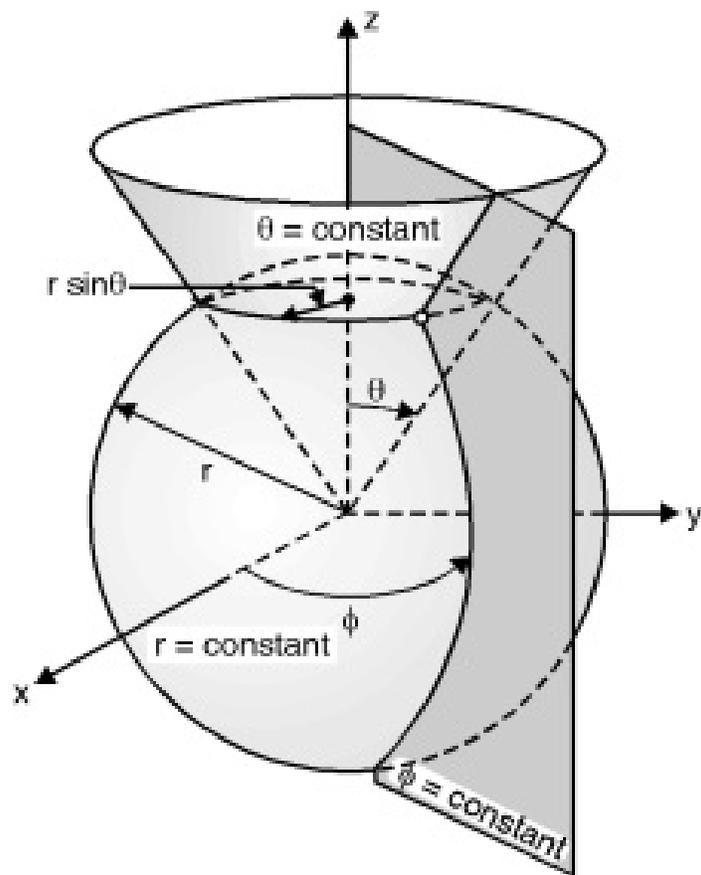

Fig. 6.1.8 : Spherical Coordinates
- When a sphere with center at origin intersects with a vertical cone with vertex at origin, the intersection is a horizontal circle with radius equal to $r \sin \theta$ [see Fig. 6.1.8].